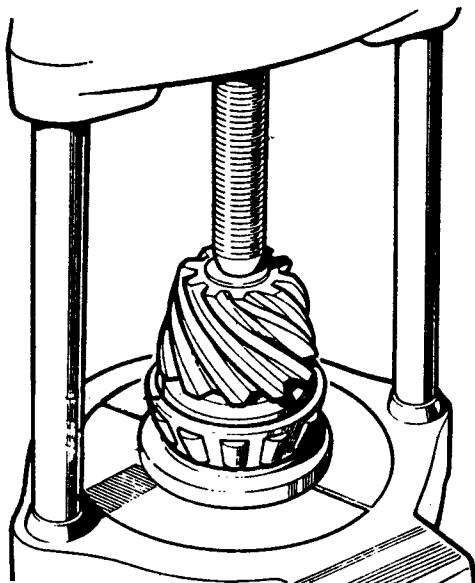

Fig J2.33
(8) Refer to Fig J2.33. Press the inner bearing cone on to the drive pinion 18G47BK details 1 and 2 and 18G47C.
(9) Position the pinion and bearing in the casing; omit the collapsible spacer at this stage.
(10) Fit the outer bearing cone on to the pinion.
(11) Fit the coupling flange and plain washer and loosely fit the flange nut.
(12) Tighten the coupling flange locknut sufficient to remove end-float from the pinion.
(13) Rotate the pinion to settle the bearings and slowly tighten the flange locknut until a torque resistance of 9,25 to 13,8 N.m is required to rotate the pinion.